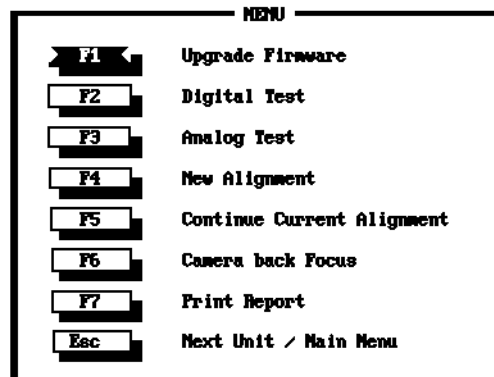

Figure 5-5. Test menu
5. Choose Start Test (press F1) to display the test menu (Figure 5-5).